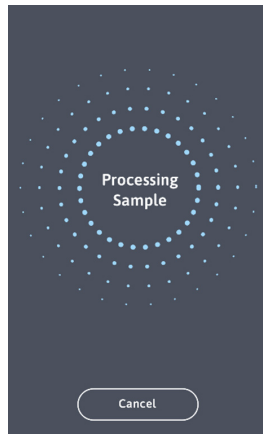

Figure 14
- Once sample mixing has been confirmed, the tube is moved into the analyzer and the testing process begins (Figure 14).